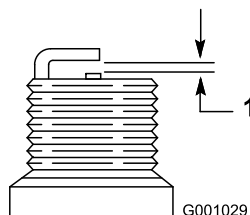

Figure 48
4. Set the gap between the electrodes on the spark plug at 0.030 inch (0.76 mm) (Figure 48).